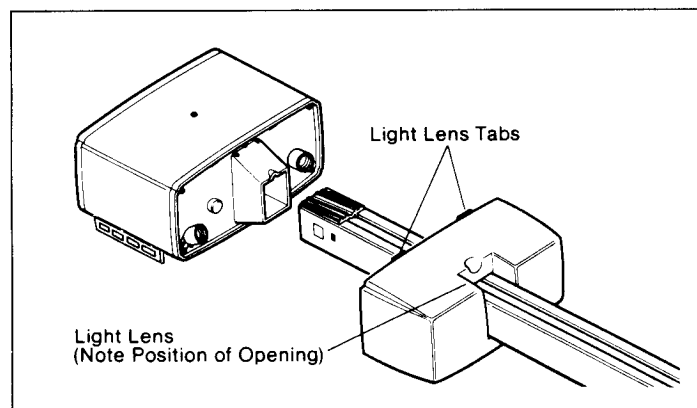

Figure 6
Step 8: Place light lens on channel. Insure that the tabs on the light lens face operator head and the center opening (for the rail) is facing upward. Position the head and channel as shown in figure 6.